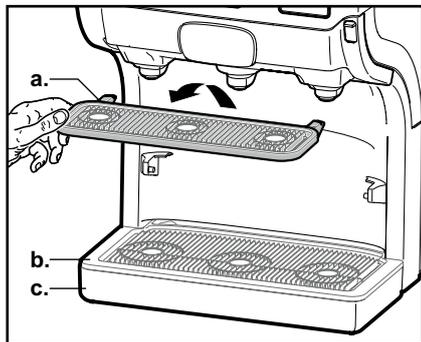

Fig. 27
2. Remove cup tray (a.), drip grid (b.) , and drip tray (c.) (fig. 27).